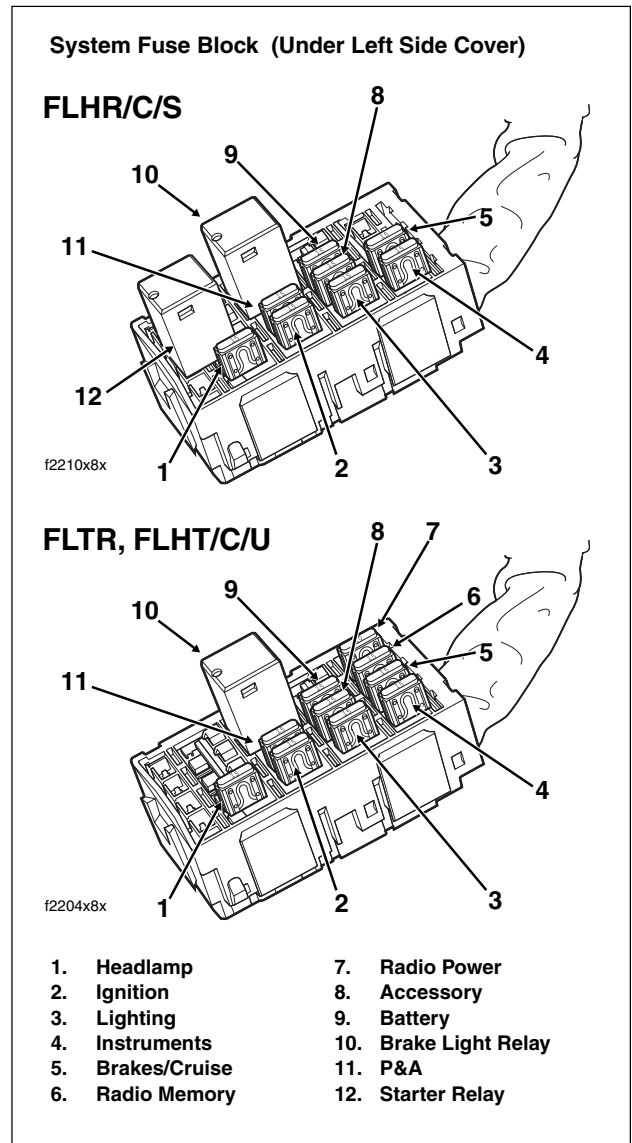

Figure 3-19. Fuse Locations
See Figure 3-19. When the Ignition/Light Key Switch is turned to IGNITION, the security lamp should illuminate for 4 seconds. Following the initial period of illumination, the lamp should go off for 4 seconds. It may then come back on for an 8 second period, indicating a historic diagnostic trouble code (DTC) or remain on, indicating a current DTC.
- Check for blown battery fuse. See Figure 3-19.